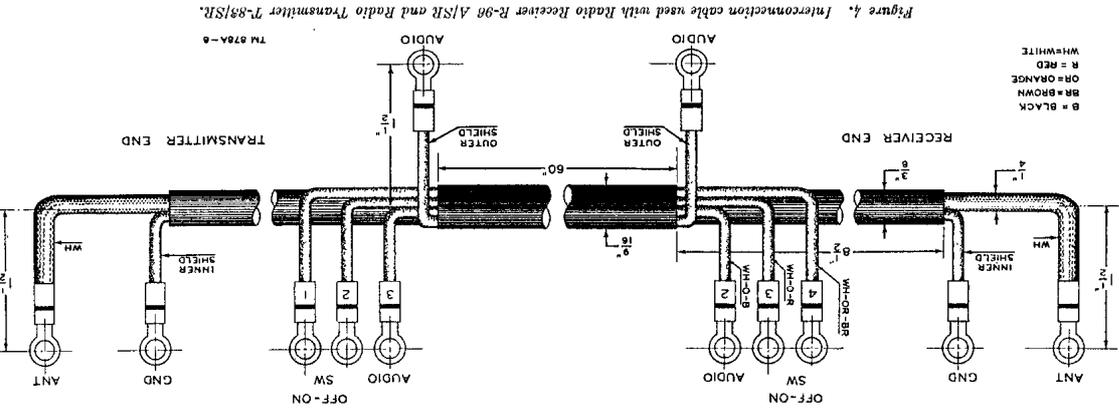

Figure 4. Interconnection cable used with Radio Receiver R-96 A/SR and Radio Transmitter T-83/SR.
No additional equipment is required for the operation of this receiver as a single unit, assuming proper power supply leads and antenna connections are available. If the receiver is used in conjunction with Radio Transmitter T-83/SR, a special connecting cable must be used. This cable (fig. 4) is supplied with the transmitter.
c. When the receiver is used in conjunction with Radio Transmitter T-83/SR, an interconnecting cable between the two units, as shown in figures 4 and 8, must be used. This cable is supplied with the transmitter as a part of the spare parts components. It is connected between the receiver and transmitter and grounds the receiver input when the transmitter is in operation. It also allows sidetone operation of the transmitter and provides connections for the use of a remote speaker. Figure 8 is a schematic diagram that illustrates the interconnections between the two units. The cable connections to the receiver are indicated in figures 4 and 8. Make sure that all cable connections are secured firmly to the terminal board and the antenna binding post.